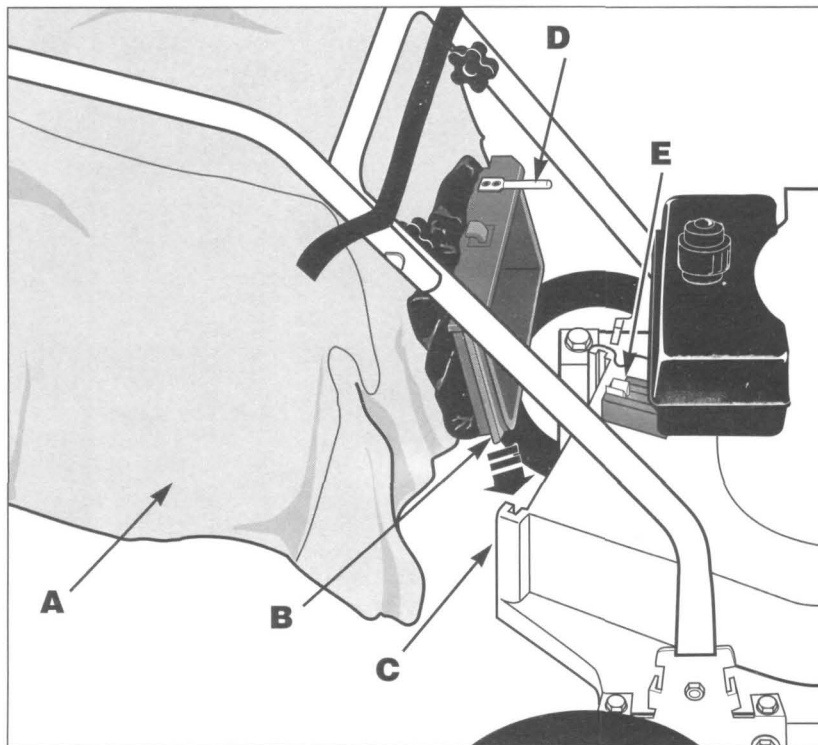

Figure 3: Install bag.
2. Make sure the bag (A in Figure 3) is zipped.
4. Line up the tabs on the bag adapter (B) with the slots in the discharge opening (C) and slide the bag adapter down all the way into the slots.
NOTE: The rod (D) on the inlet adapter is part of the machine's safety interlock system. Make sure that the rod fits securely in the slot (E) in the safety interlock switch. See Figure 3 below and read the description of the Safety Interlock System on Page 9.
2. Slide the bag adapter (B) out of the slots in the discharge opening.